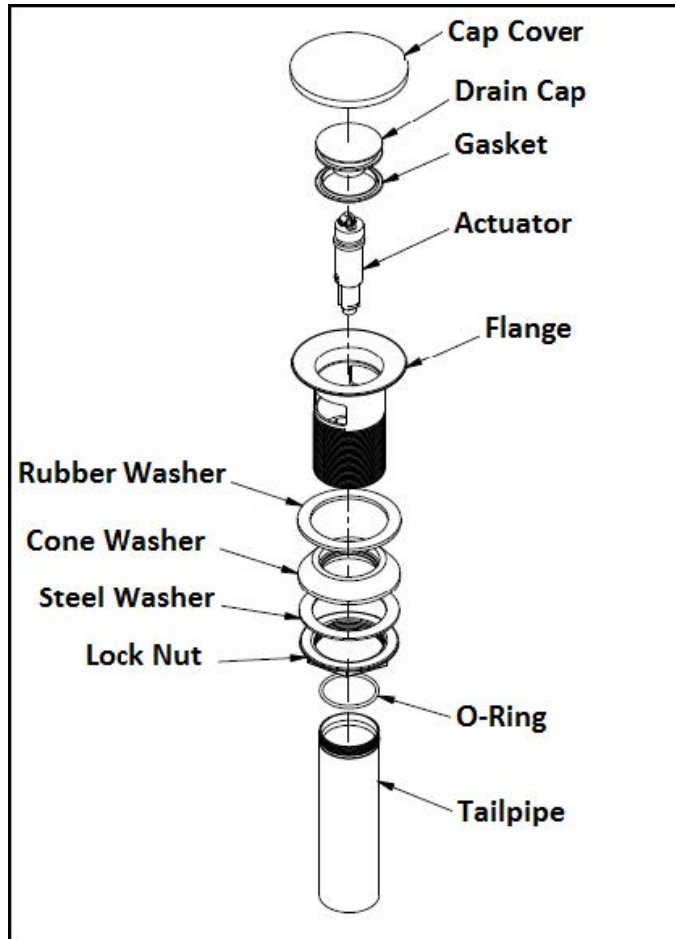

Figure 3
3. Drain assembly not included with I203-1. Remove **FLANGE, RUBBER WASHER, STEEL WASHER**, and discard drain **CAP COVER** from drain assembly. Place **RUBBER WASHER** into **FLANGE**. Then, place **FLANGE** through the sink hole (Clear silicone may be used in place of **RUBBER WASHER**). From underside of sink, install **CONE WASHER, STEEL WASHER**, and **LOCK NUT** into **FLANGE**. Thread **LOCK NUT** firmly. Thread **TAILPIPE** to **FLANGE** assembly and assemble **TAILPIPE** to existing P-Trap. **See Figure 3.**